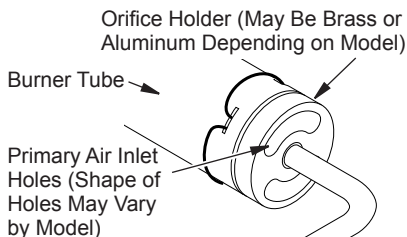

Figure 27 - Orifice Holder On Outlet Burner Tube
2. Inspect burner, pilot and primary air inlet holes on orifice holder for dust and dirt (see Figure 27).